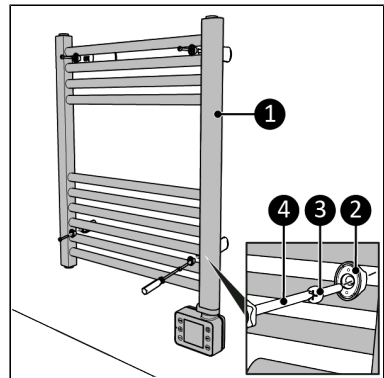

Figure 10.
10. Place the device (Figure 10, pos. 1) over the wall brackets.
11. Screw and tighten the device with four large screws (Figure 10, pos. 3) to the wall bracket (Figure 10, pos. 2) using a Phillips screwdriver (Figure 10, pos. 4).